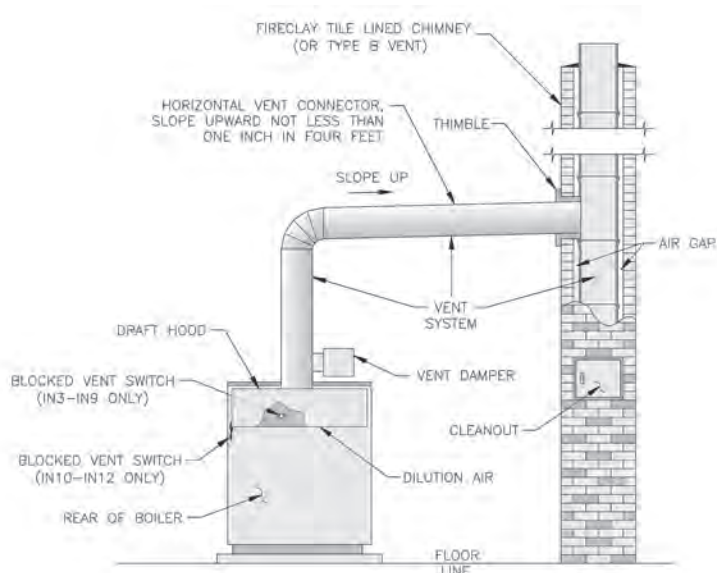

Figure 8: Typical Vent System Installation
C. Inspect Vent System (Monthly). See Figure 8. Follow instructions TO TURN OFF GAS TO APPLIANCE (see Figure 4, 5, 6 or 7) and contact a qualified service agency if any of the following conditions are found: